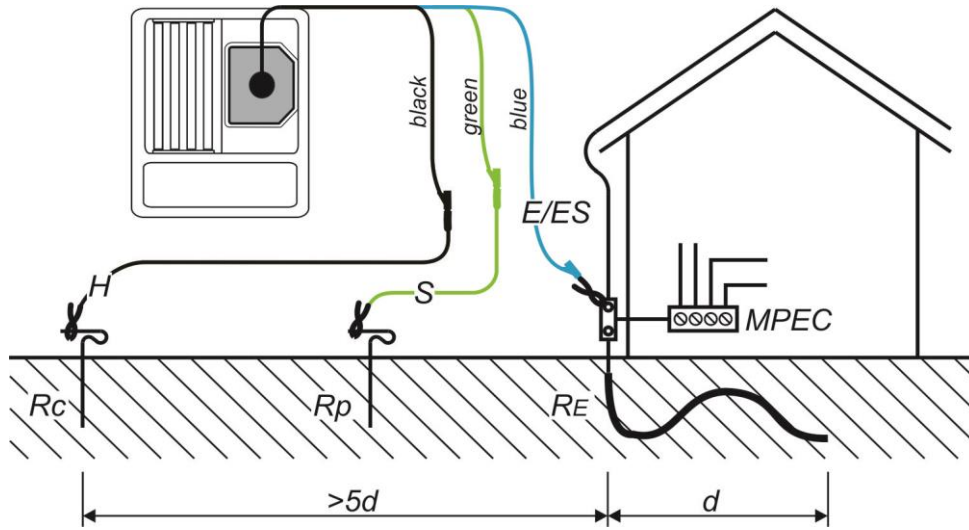

Figure 5.45: Resistance to earth, measurement of main installation earthing
- ❑ **Connect** the item to be tested (see *Figure 5.45* and *Figure 5.46*).